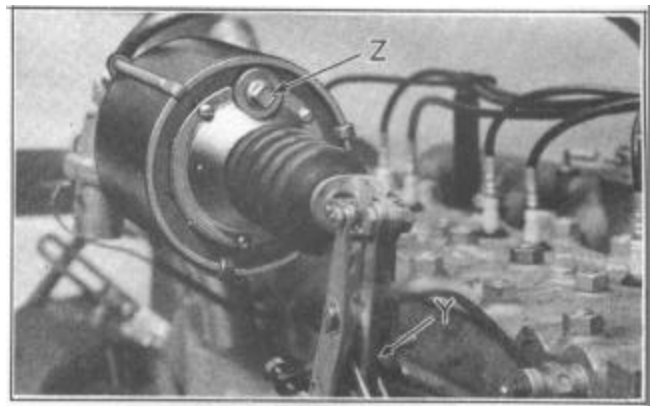

FIGURE 12
At intervals of 1,000 miles all pivot points in the mechanism should be lubricated with a few drops of light engine oil. Be sure to put a few drops of oil in the bellcrank bracket oil hole (Y) Figure 12.
At intervals of 10,000 miles, remove pipe plug (Z), Figure 12 in rear end of power cylinder, and spray one ounce of Hudson Shock Absorber Fluid through plug opening.